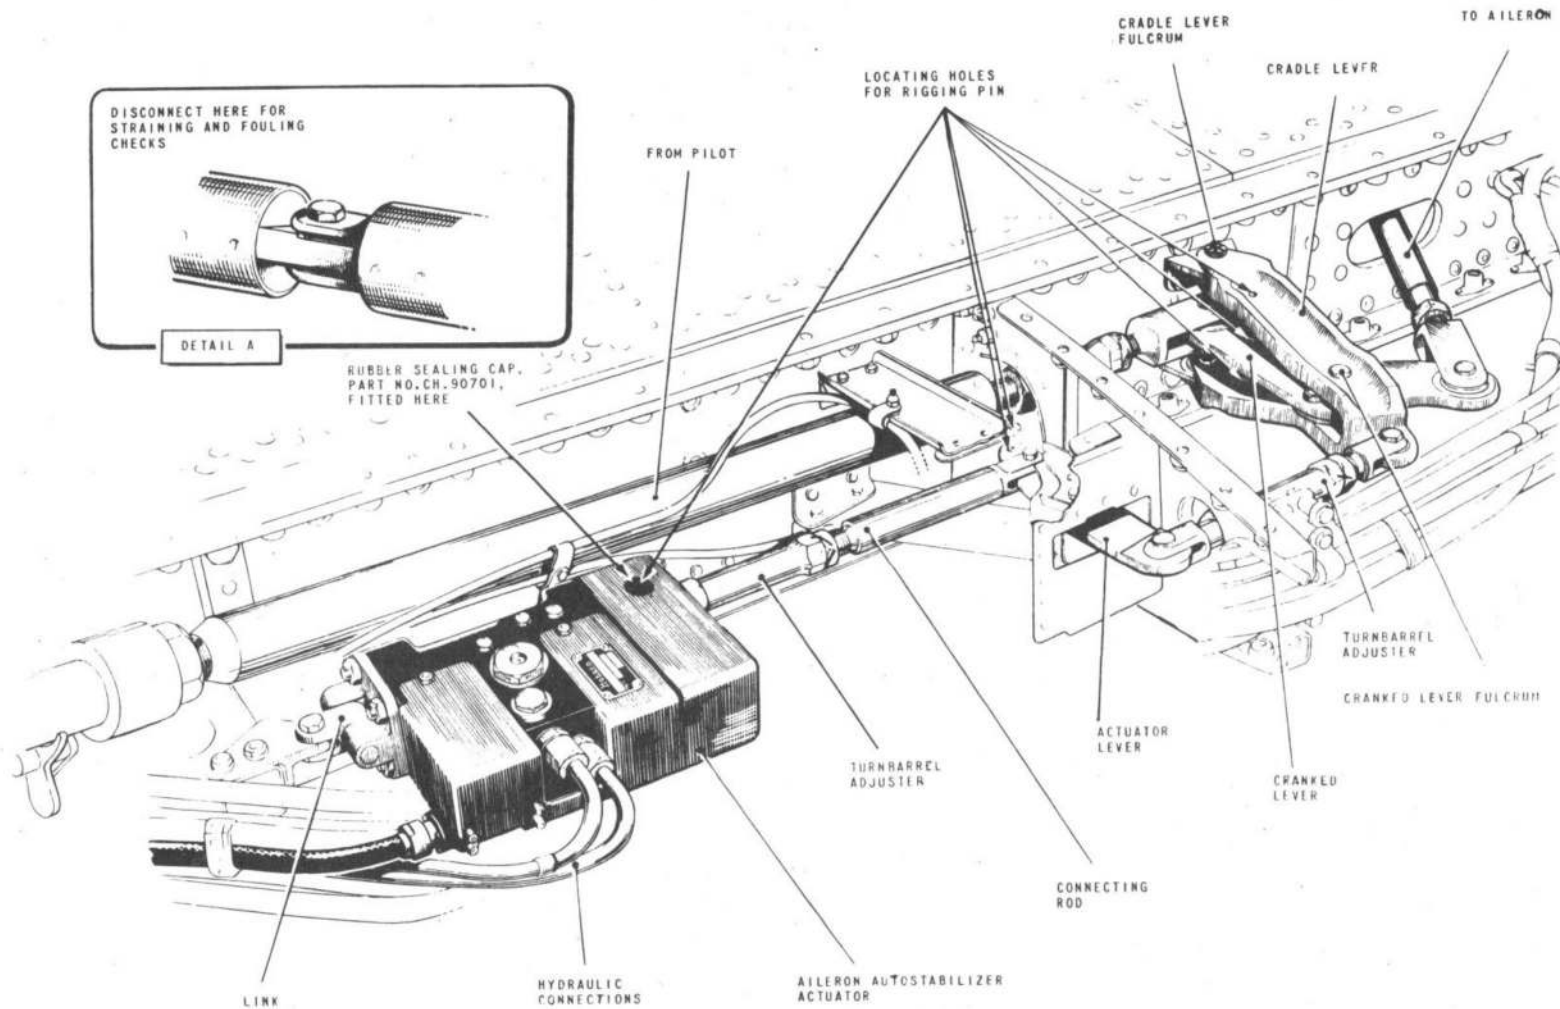

FIG. 3. AUTOSTABILIZER ACTUATOR INSTALLATION
Autostabilizer actuators (fig.3)
(4) Remove the hydraulic system hand pump handle from its stowage in the port leg well, fit it to the pump (access panel 79P) and operate the pump to provide pressure for centring the actuator.
(5) Switch OFF the master switch on the control unit, and the instrument master switch.
(6) Check for centre position using rigging pin Ref.No. 26DK/95134, through the hole in the body of the actuator (fig.3). If the pin will not enter the actuator is unserviceable.